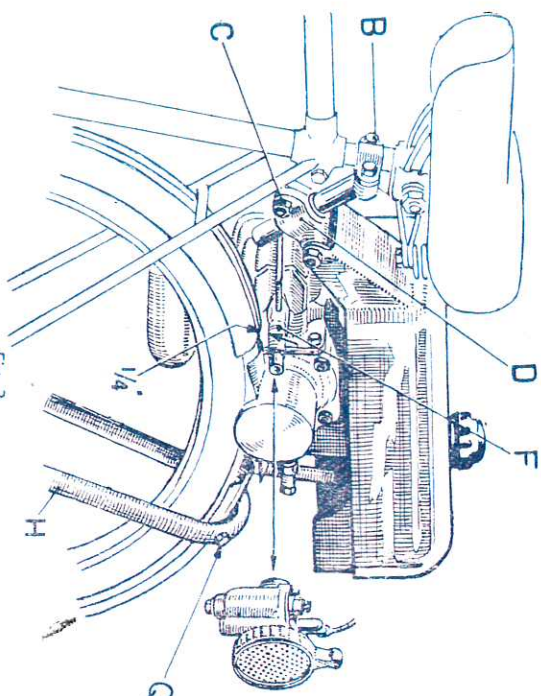

Fig. 3
- (4) Now replace the unit as before and the roller will rest on the tyre. Move again the sliding hinge "D" to bring the tank afresh into a horizontal position. Make sure now that the cylinder fins and the inlet tube are at least $\frac{1}{4}$ in. clear of the mudguard. If the clearance is less, it is necessary to cut away the sections of the mudguard which may endanger the free movement of the engine. (Fig. 3.)
- (5) Now look at the bicycle from the rear. Make sure that the tank top is parallel to the spindle of the rear wheel of the bicycle and that the roller rests well on the middle of the tyre.
- (6) Now tighten the clamp bolts "B" and sliding hinge bolts "C" (Fig. 3).
- (8) Two holes "O" must now be drilled through the rearward portion of the mudguard at about $\frac{1}{4}$ in. from the edge where the cut (see paragraph 3) was made. The U shaped stay should then be bolted to the mudguard. (Fig. 3).